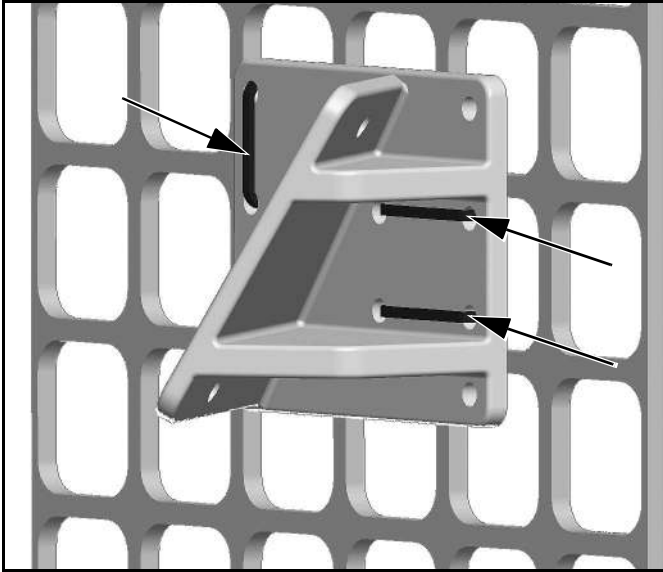

Figure 15
1. Install Plow Control Bracket onto skid steer window with three tie straps. (See Figure 15)